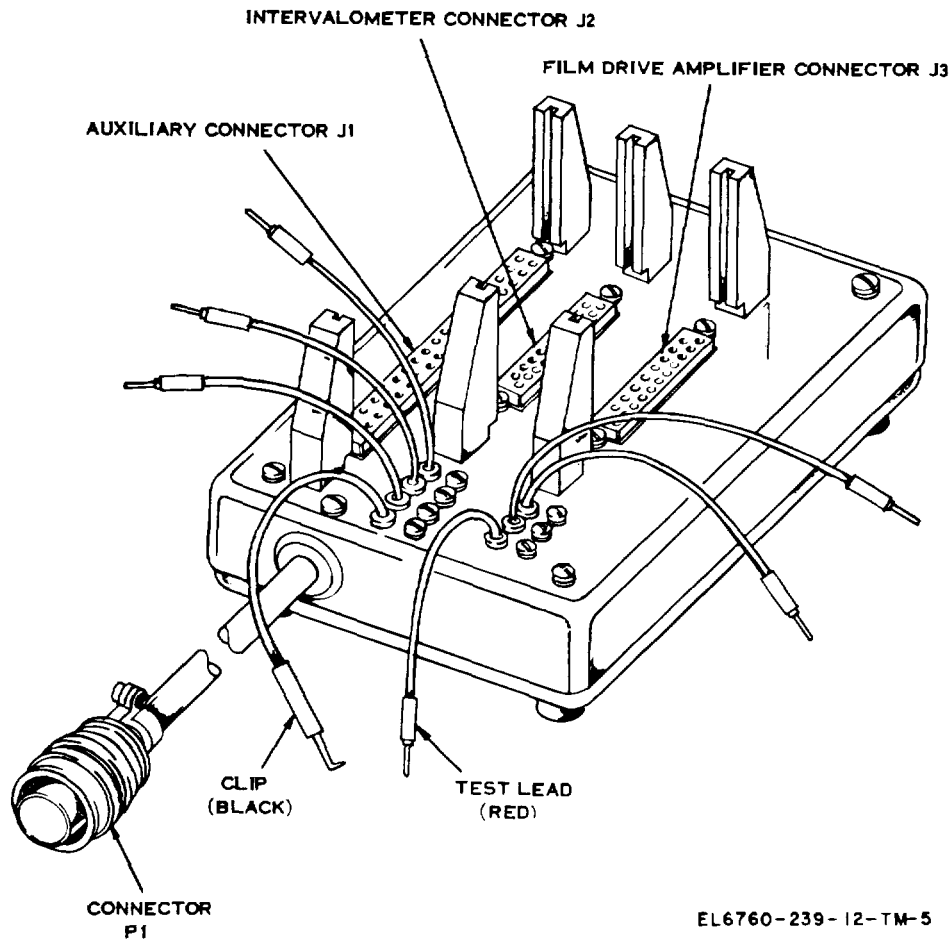

Figure 1-5. Module test adapter.
d. Module Test Adapter (fig. 1-5). The module test adapter consists of a test adapter box, a 48-inch pendent interconnection cable, and seven test leads, and is used to test the modules of Control, Power Supply LA-406A. The module test adapter box contains receptacle connectors for insertion of the printed circuit boards of Control, Power Supply LA-406A under test. Three guides are provided for proper insertion and retention of the printed circuit boards into the connectors. The top connector (auxiliary connector J1) provides for insertion of the auxiliary printed circuit board, the middle connector (intervalometer connector J2) provides for insertion of the intervalometer printed circuit board, and the bottom connector (film drive amplifier connector J3) provides for insertion of the film drive amplifier printed circuit board. The inter-connecting cable has a 55-prong male connector for connecting the module test adapter to the test panel. The 10-inch test leads are used for measurements at the test points of the printed circuit board under test; six are terminated by tip plugs and one is terminated by a clip.